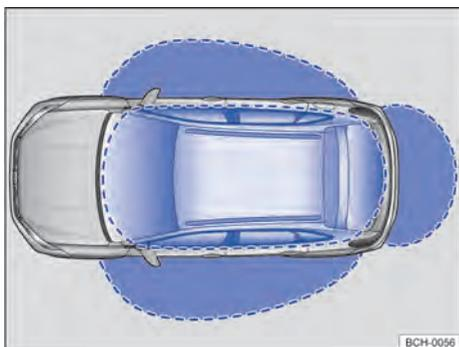

Fig. 49 Keyless Access: proximity areas.
- ◀ When the vehicle is locked and a vehicle key is within the proximity range → Fig. 49 of the boot lid, the lid automatically unlocks when being opened.